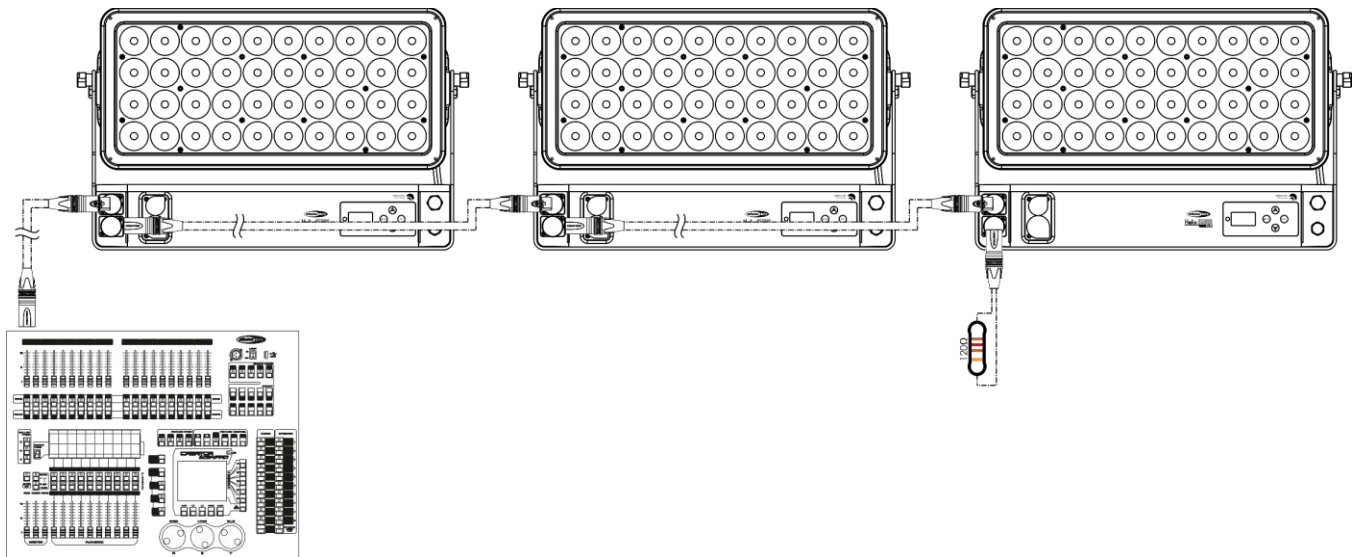

Fig. 08
- 05) Link the units as shown in fig. 08. Connect a DMX signal cable from the first unit's DMX "out" socket to the second unit's "in" socket. Repeat this process to link the second and third units.